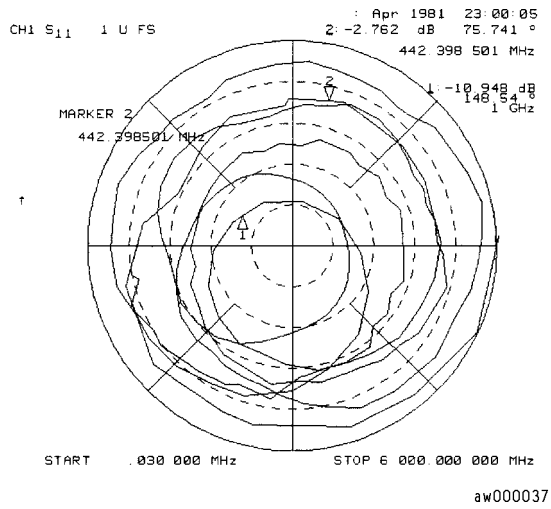

Figure 7-19. Example S₁₁ Measurement Trace in Polar Format with Markers
- 2 Press **SCALE REF**, *AUTO SCALE* to reposition the trace as shown in Figure 7-19.
The Agilent 8702D shows the results of an S_{11} measurement with each point on the polar trace corresponding to a particular value of both magnitude and phase. The center of the circle represents a reflection coefficient (Γ) of 0, (that is, a perfect match or no reflected signal). The outermost circumference of the scale shown in Figure 7-19 represents $\rho = 2.00$, or 200% reflection. The phase angle is read directly from this display. The 3 o'clock position corresponds to zero phase angle (that is, the reflected signal is at the same phase as the incident signal). Phase differences of 90° , 180° , and -90° correspond to the 12 o'clock, 9 o'clock, and 6 o'clock positions on the polar display, respectively.
- 4 Turn the front panel knob to position the marker at any desired point on the trace, then read the frequency, linear magnitude and phase in the upper right hand corner of the display, as shown in Figure 7-19.